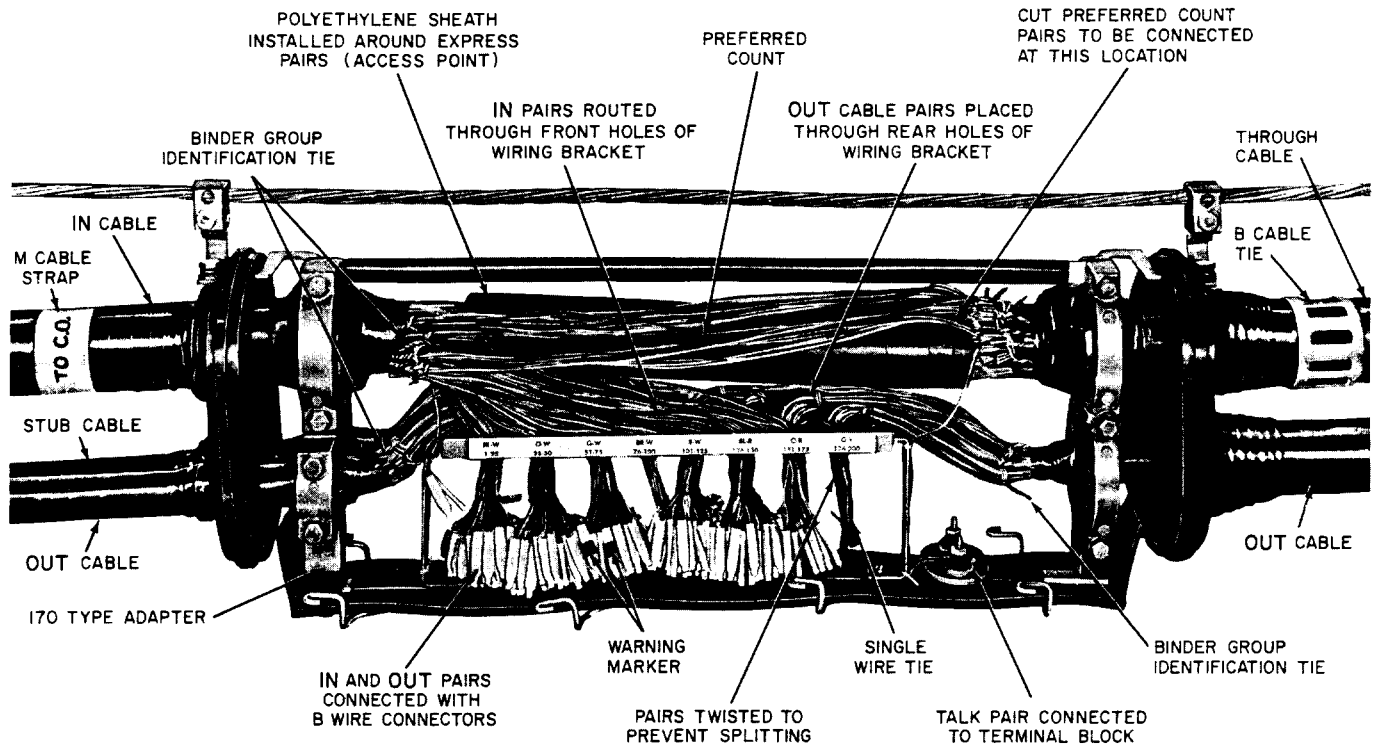

Fig. 2—1B1 Closure
**Note 1:** *OUT* cable number and pairs are: (1) 100-pair, (2) 100-pair, (3) 50-pair, (4) 50-pair.
**Note 2:** *In* cable number and pairs are: (1) 200-pair and (2) 200-pair.
- (a) **Strand-Mounted Access Point**—The 1B1 Closure (Fig. 2) is used as a strand-mounted access point.